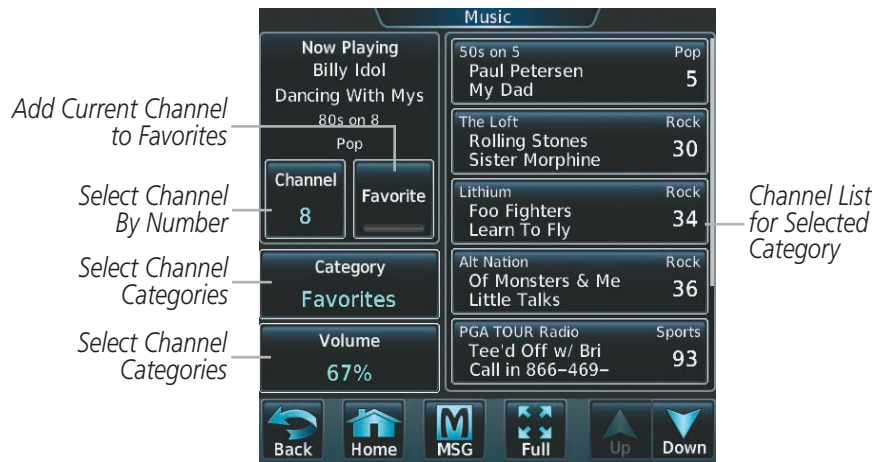

Figure 8-42 SiriusXM Satellite Radio Controls
- 1) From the **Home** Screen, touch **Services > Music** to access the Music Screen as in Figure 8-42.
- 2) The list of categories is displayed as shown in Figure 8-42.
Entertainment audio volume is shown in the **Volume** field (Figure 8-42) as a percentage of full volume. Volume can be muted manually, or muting may be initiated automatically when other audio, such as radio, intercom, or aural alerts, is present.